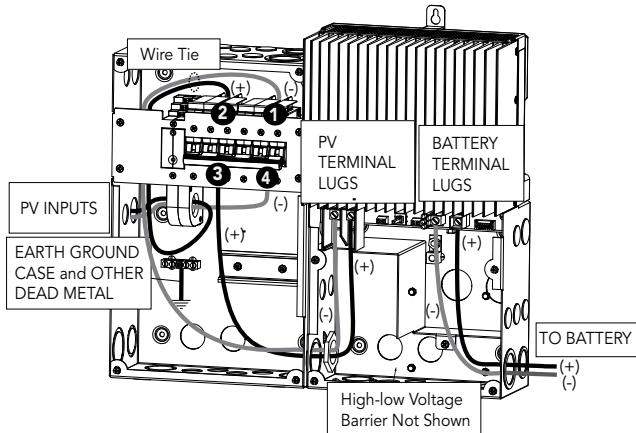

Figure 7. Completing Wiring for Standard Box
NOTE: Use included wire tie to secure wires above breaker assembly as shown in Figures 7 and 8.
REMARQUE: Utilisation fourni attache de fil aux fils sûr ci-dessus assemblée de disjoncteur tel qu'illustre aux Figures 7 et 8.
Step 7. Run (+) and (-) controller->battery wires into the controller through right upper level knock-out above the metal high-low voltage barrier. If using a Standard Box (Figure 7), connect (+) and (-) controller->battery wires directly to controller's (+) and (-) battery terminal lugs. If using a DB model controller, see note in Step 8.